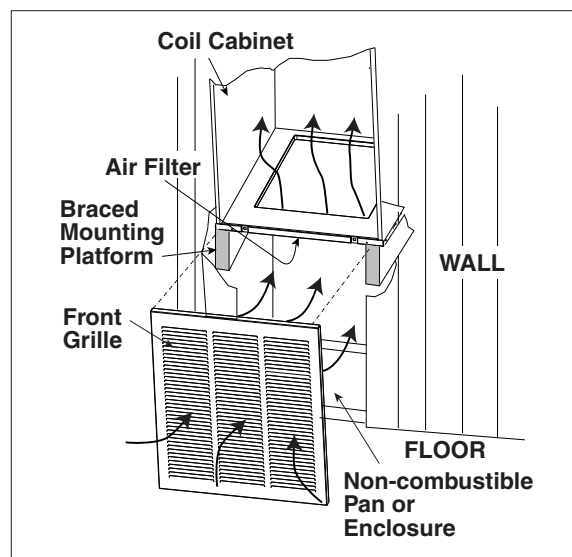

Figure 18. Over-the-Floor Return Air System
1. Without optional upflow stand: (see Figure 18)
1. If floor underneath furnace is made of combustible material, locate a pan fabricated of non-combustible material with 1" upturned flanges under furnace return air opening (see Figure 18).
7. Install return air grille in closet preferably at same level as upflow stand or below mounting platform (see Figure 18).